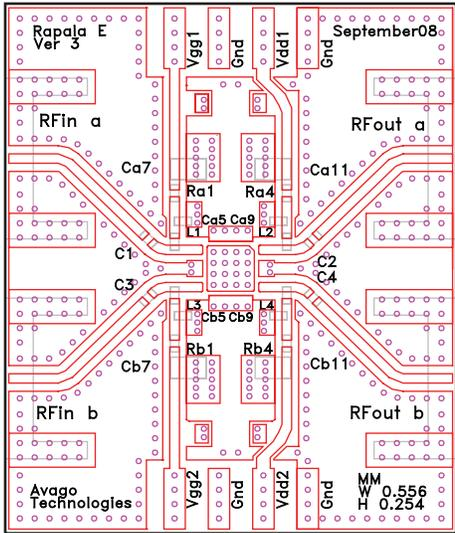

Figure 5. Demo Board Layout Diagram
RF performance at  $T_A = 25^\circ\text{C}$ ,  $V_{dd} = 5\text{V}$ ,  $I_{dd} = 50\text{mA}$ , 850MHz and 900MHz given for each RF channel, measured on demo board in Figure 5 with component list in Table1 for 850 MHz matching.
7. Measurements at 850 MHz and 900 MHz are obtained using demo board described in Figure 5.
RF performance at  $T_A = 25^\circ\text{C}$ ,  $V_{dd} = 5\text{V}$ ,  $I_{dd} = 50\text{mA}$ , given for each RF channel, measured on demo board in Figure 5 with component list in Table 1 for 850 MHz matching. IIP3 is measured with input power of  $-15\text{dBm}$  per tone.
RF performance at  $T_A = 25^\circ\text{C}$ ,  $V_{dd} = 5\text{V}$ ,  $I_{dd} = 50\text{mA}$ , given for each RF channel, measured on demo board in Figure 5 with component list in Table 1 for 850 MHz matching.